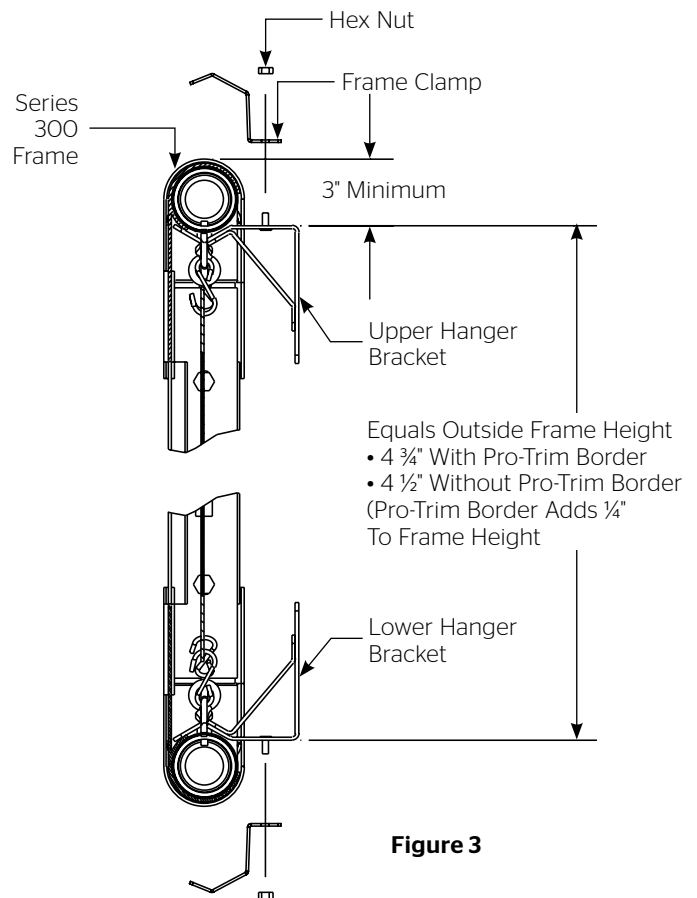

Figure 3
- You will need at least 3" above the hanger bracket to mount the Series 300 frame (see Figure 3).
2. Line up the lower hanger bracket with the mark and secure it to the wall. Refer to Figure 3.
3. Remove the frame clamp from the hanger brackets and position the Series 300 frame on the hanger brackets as shown in Figure 3.